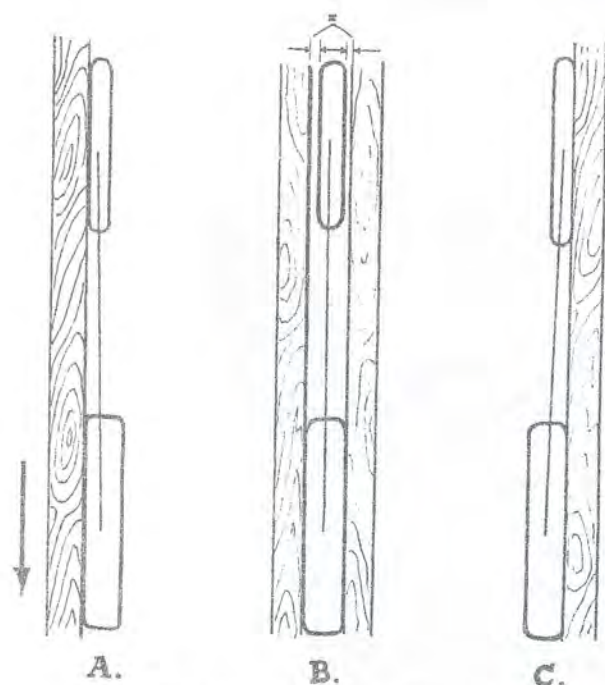

FIG. F.16. Checking alignment.
If the front tyre is of smaller section then it should be as drawing (B) Fig. F.16.